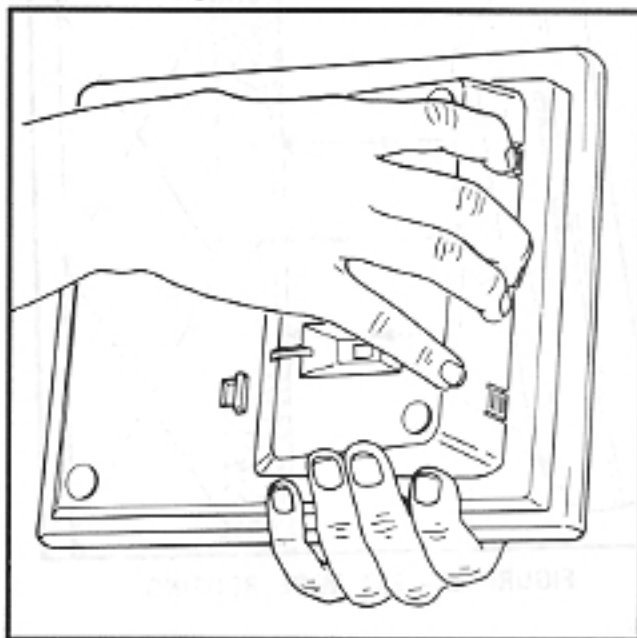

FIGURE 20—REMOVING EKT BASE
- 1) Disengage the locking tabs by pushing downward on the base (Figure 20), and then rotate the base 180° and insert it into the lower four locking slots.